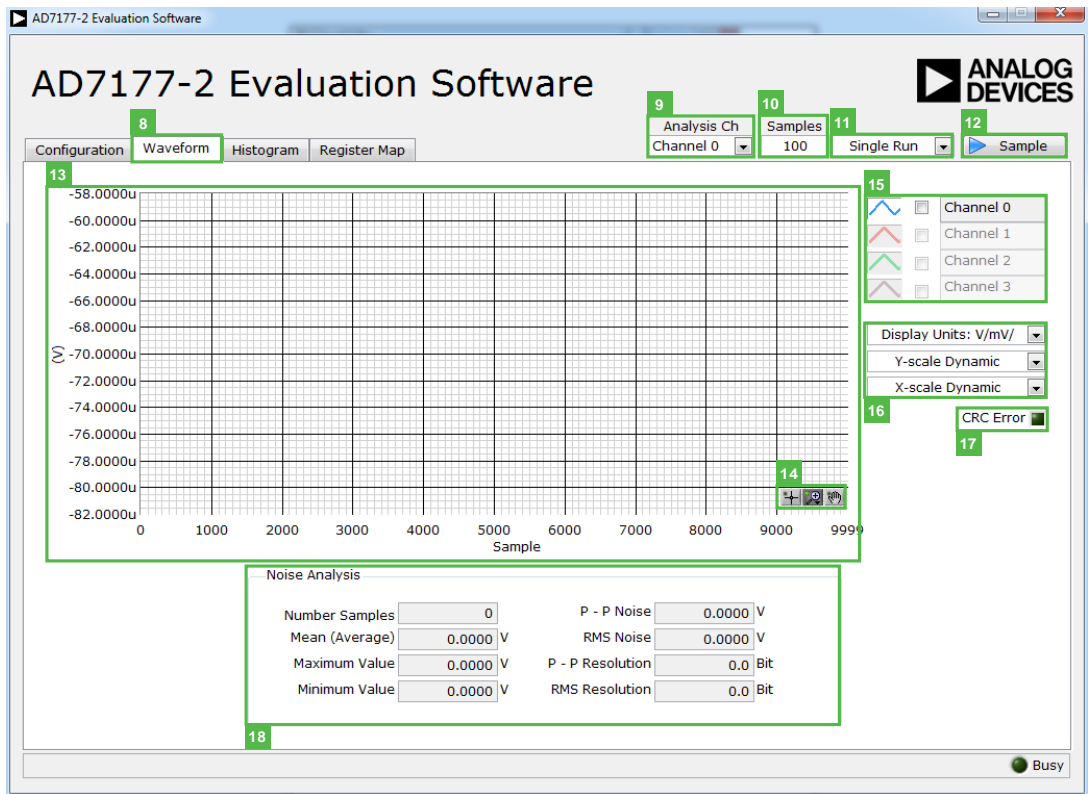

Figure 8. **Waveform** Tab of the AD7177-2 Evaluation Software
The **Noise Analysis** section and Histogram Graph shows the analysis of the channel selected via the **Analysis Ch** (labeled 9 in Figure 8) drop-down combo box.
The **Samples** (labeled 10 in Figure 8) numeric control and batch control (labeled 11 in Figure 8) set the number of samples gathered per batch and whether only a single batch or multiple batches of samples are gathered. The **Samples** (10) numeric control is unrelated to the ADC mode. You can capture a defined sample set or continuously gather batches of samples. In both cases, the number of samples set in the **Samples** (labeled 10 in Figure 8) numeric input dictates the number of samples.
**Sample (12)**
Click the **Sample** button to start gathering ADC results. Results appear in the waveform graph (labeled 13 in Figure 8).
The data waveform graph shows each successive sample of the ADC output. The control toolbar in the graph allows you to zoom in on the data. Click the x-axis and y-axis to change the scales on the graph (see Figure 8).
The channel selection control allows you to choose which channels display on the data waveform. It also shows the analog inputs for that channel labeled next to the on and off controls (see Figure 8). These controls only affect the display of the channels and do not have any effect on the channel settings in the ADC register map.
Click the **Display Units** to select whether the data graph displays in units of voltages or codes (see Figure 8). This selection affects both the waveform graph and the histogram graph. The axis controls can be dynamic or fixed. When **Y-scale Dynamic** and **X-scale Dynamic** are switched on, the axis automatically adjusts to show the entire range of the ADC results after each sample batch. Click the drop-down arrows to select the fixed axis controls, which program the axis ranges to not adjust after each sample batch.
The **CRC Error** LED icon illuminates when a cyclic redundancy check (CRC) error is detected in the communications between the software and the AD7177-2 (see Figure 8). The CRC functionality on the AD7177-2 is disabled by default and must be enabled for this indicator to work.
The **Noise Analysis** section displays the results of the noise analysis for the selected analysis channel (see Figure 8). This section includes both noise and resolution measurements.